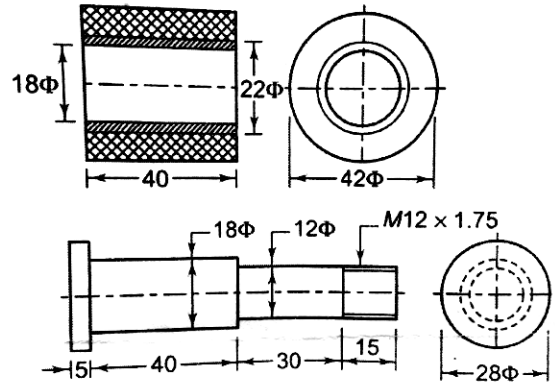

Figure Q2.
Shaft diameter 30 mm, Boss/hub diameter 60 mm, Pin circle diameter 120 mm, Length of the boss/hub or key 50 mm, Overall diameter 220 mm, Clearance 2 mm, both Flange thickness 35 mm, Thickness of protective circumferential flange 12 mm, Total length of the protective flange 40 mm, number of pins 4. Pin dimensions are shown in Figure Q2.